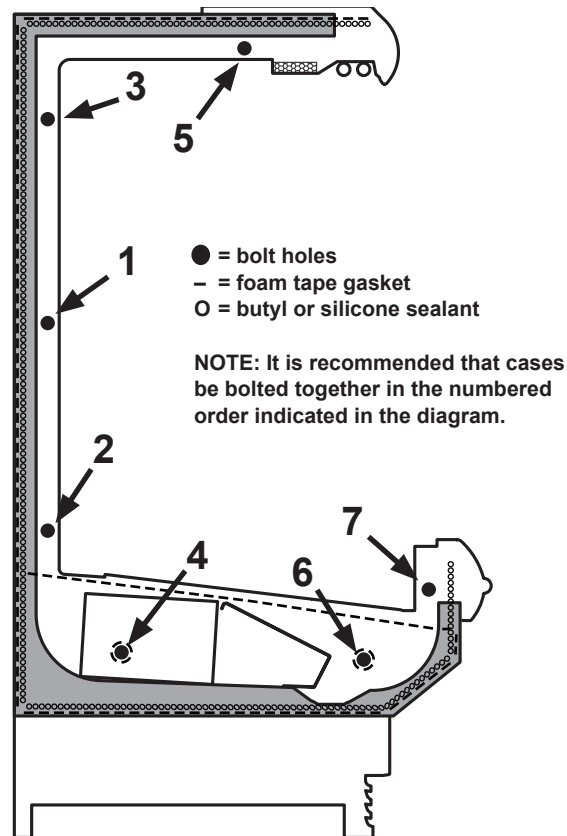

Fig. 2 Bolt holes, foam tape gasket and sealant
4. Apply the foam tape gasket (supplied) and a bead of butyl or silicone sealant to the end of the first case (Fig. 2). From the opposite end, push the second case to a position that is approximately 6" from the first case, then remove the remaining casters and position case on the shim packs.
6. Push the cases tightly together, then lightly bolt them together through the holes that are provided (Fig. 2). Tighten all the joining bolts until all margins are equal. Be careful not to over tighten.